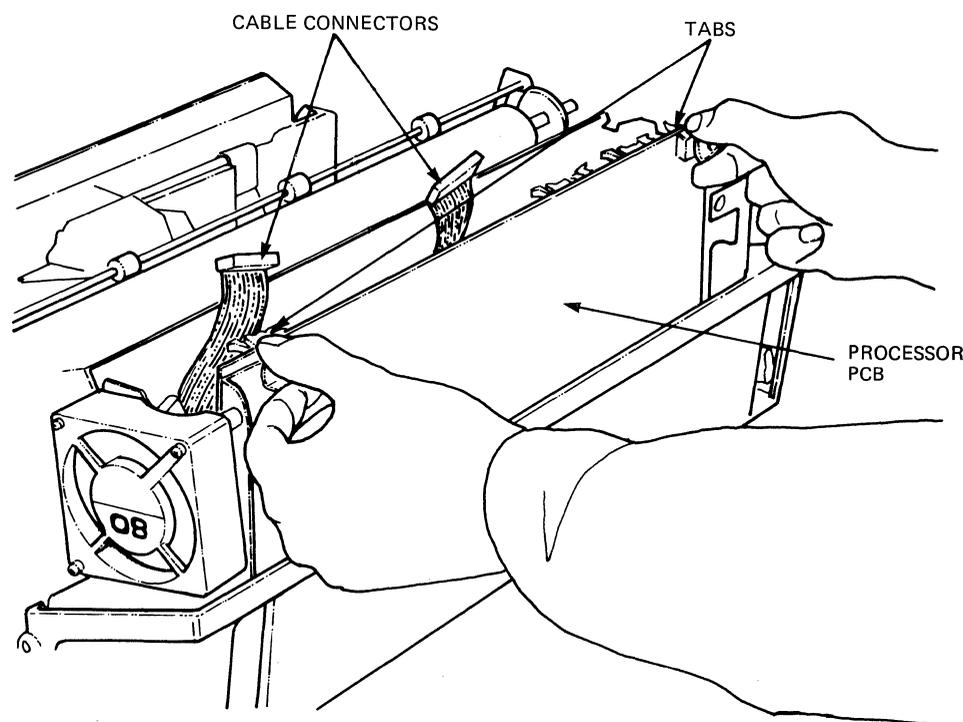

Figure 4-3 Control PCB Removal
- d. Unhook the tabs on both sides of the Control PCB and pull the PCB up and out of the Spinwriter (see Figure 4-3).